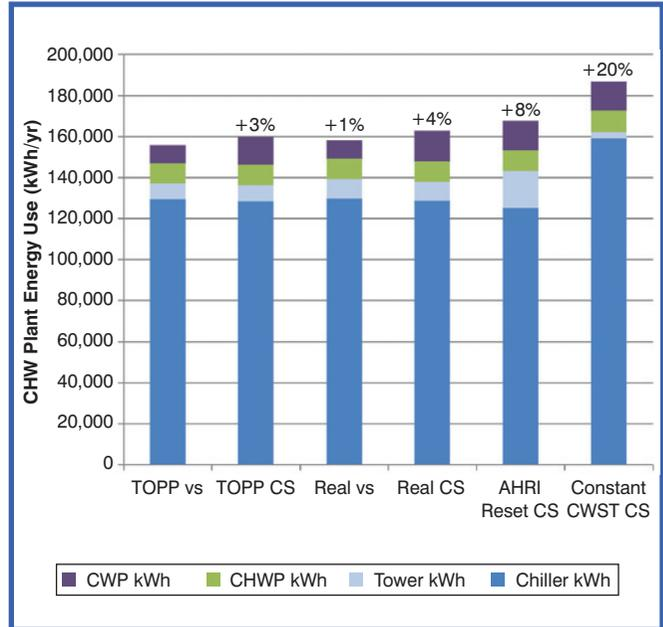

Figure 12: TOPP vs. real sequences for both constant speed and variable speed CW pumps.
Figure 12 shows the theoretical optimum performance for both variable speed (VS) constant speed (CS) CW pumps compared to our proposed “real” sequences using the coefficients listed above. Despite their simplicity, our sequences resulted in only about 1% higher energy use than the TOPP. Variable speed drives on the CW pumps saved 3% vs. constant speed pumps, but this was not enough savings to make them cost effective at a 15 scalar ratio (simple payback period) for this plant. Also shown in the figure for comparison is plant performance using the AHRI 550/590 condenser water relief curve to reset condenser water temperature (4% higher energy use than our sequences) and performance assuming CWST